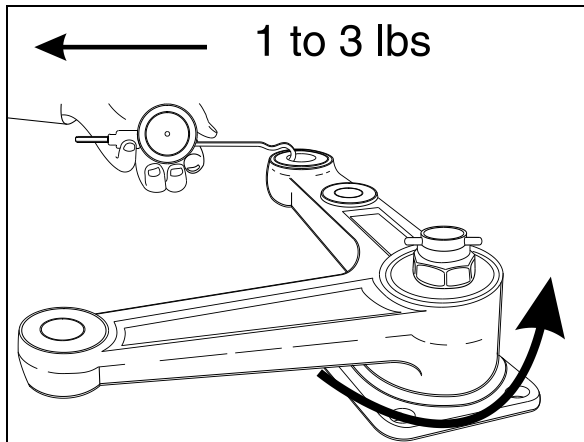

FIGURE 22: BELL CRANK
6. Unscrew nut until bell crank or idler arm starts to turn by the application of 1 to 3 pounds load (Fig. 22).
7. Check for loose bearings by applying an up and down load on bell crank or idler lever (Fig. 22). The lever is not supposed to move in the vertical axis direction.